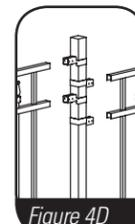

Figure 4D
- 4.8 Step-down installation is also manageable (see figure 4D)
4.8 Une installation en palier est aussi possible (voir la figure 4D)